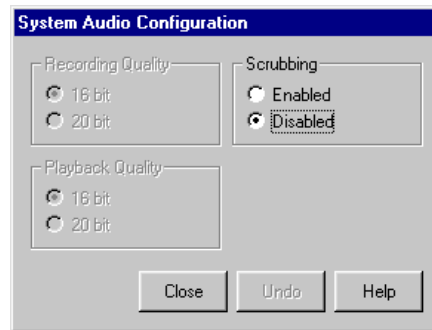

Figure 45. System Audio Configuration dialog box
1. Choose **Options | Audio Configuration** or click the System Audio Configuration button. The System Audio Configuration dialog box appears (Figure 45).